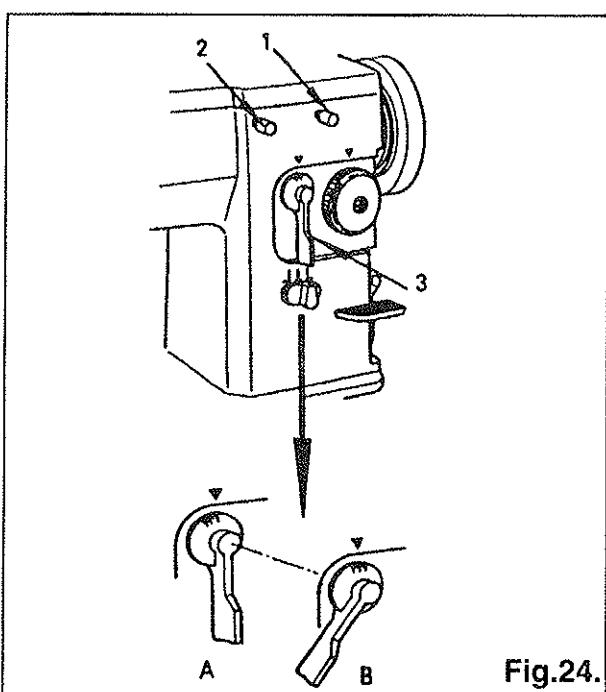

Fig.24.
To obtain minimum to maximum width (20U73/73B:9mm, 20U83/83B:12mm) zigzag stitches, first loosen thumb screw (2),Fig.24. to permit the stitch width regulator (3), Fig.24 to return to its zero position (see A, Fig.24) and retighten thumb screw (2).
Then loosen thumb screw (1),Fig.24. turn stitch width regulator (3) clockwise as far as it will go and while holding the regulator (3) in this position (see B, Fig.24), retighten thumb screw (1).